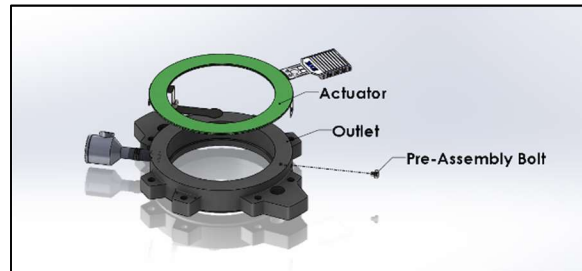

Figure 4 – Z-ALERT Assembly
- e) Place Actuator assembly on the Outlet gasket face with the actuator and magnet components oriented so that they are recessed into the Outlet (the Actuator and magnet should be near the disk). See Figure 4.
- g) Place Actuator assembly on the Outlet gasket face with the actuator and magnet components oriented so that they are recessed into the Outlet (the Actuator and magnet should be near the disk)(Figure 4).